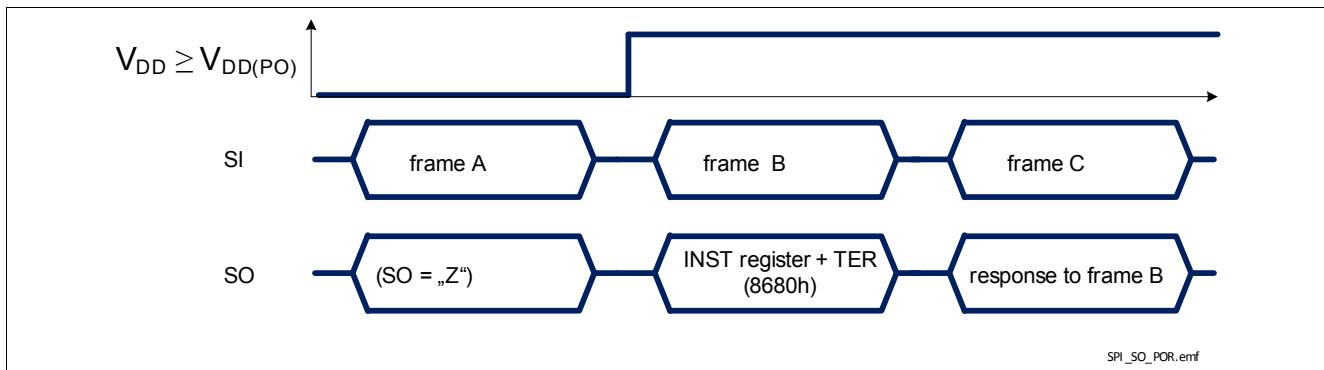

Figure 40 TLE75242-EMH response after coming out of Power-On reset at V_{DD}
- when TLE75242-EMH logic supply comes out of Power-On reset condition or after a Software Reset, as shown in Figure 40